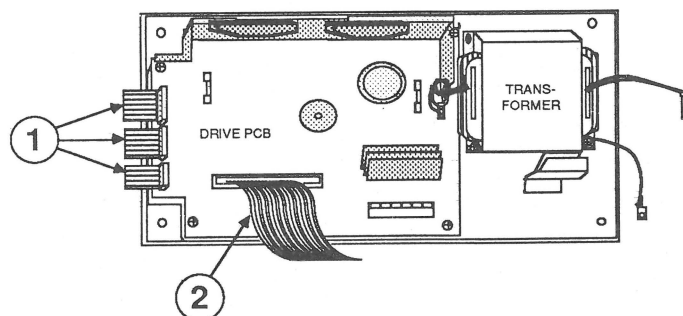

FIGURE 18
9. Using a small flathead screwdriver, gently pry up the left side of the bottom cover. Disconnect the three connectors (Figure 18, #1) in one of two ways:
10. Lift the front half of the bottom cover, and disconnect the 50-pin ribbon cable. (Figure 18, #2).